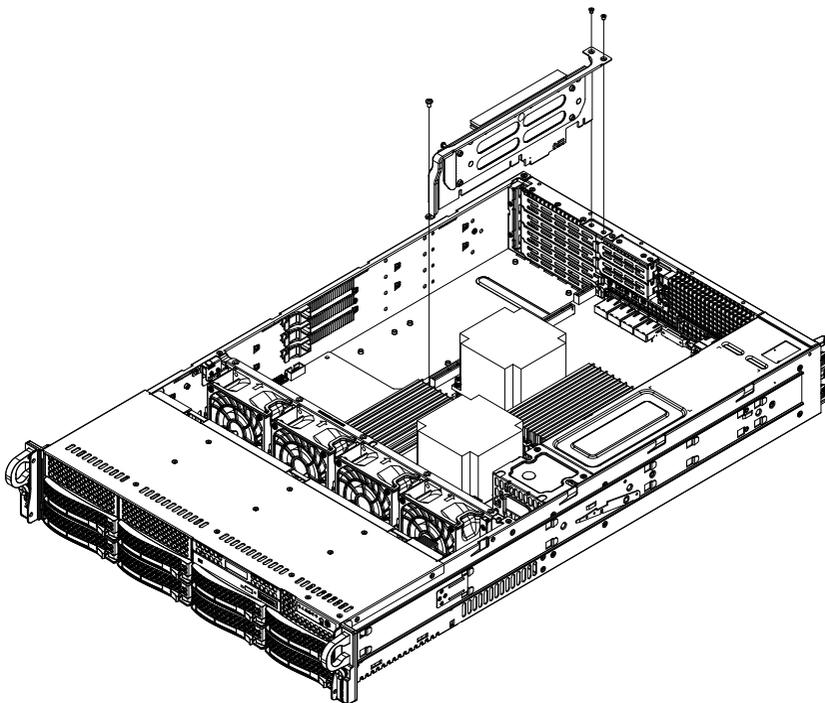

Figure 5-13: Installing a Riser Card
3. Insert the riser card into the far right chassis expansion slot (see Figure 5-13).